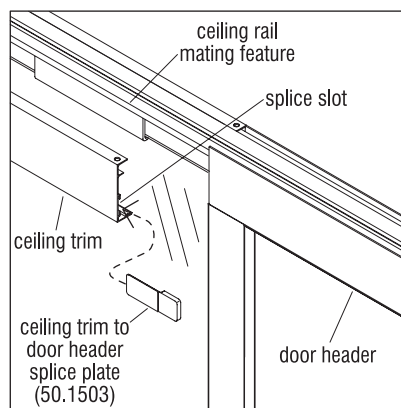

Figure 1
1. Ceiling trim is spliced to the door header using the ceiling trim to door header splice plate (50.1503). To splice the trim, slide the splice plate into the splice slot in the ceiling trim (Figure 1).